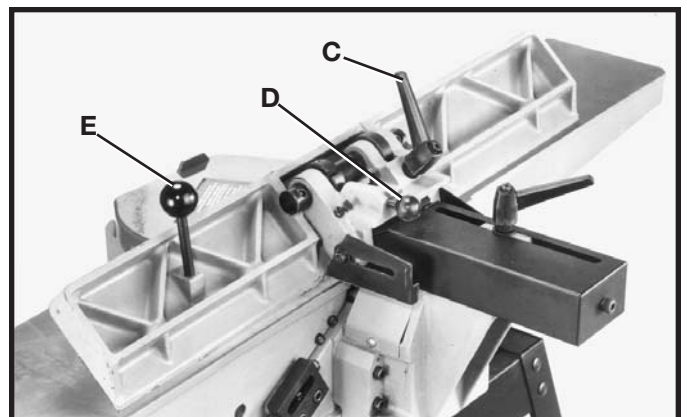

Fig. 49
2. To tilt the fence to the right or left loosen lock handle (C) Fig. 49, and pull out and turn plunger (D) to release the positive stop. A tilting lever (E) is provided on the back of the fence to assist in tilting the fence. **NOTE:** Lock handle (C) is spring-loaded and can be repositioned by pulling out the handle and repositioning it on the serrated nut located underneath the hub of the handle.
3. Tilt the fence to the desired angle, in or out, and tighten lock handle (C) Fig. 49. **IMPORTANT:** When cutting bevels and the angle is small there is little difference whether the fence is tilted in or out; however, at angles approaching 45 degrees it may become difficult to hold the work securely against the fence when the fence is tilted out. In these cases we suggest that the fence be tilted toward the table, as shown in Fig. 49. The fence will form a V-shape with the tables and the work is easily pressed into the pocket while passing across the knives.